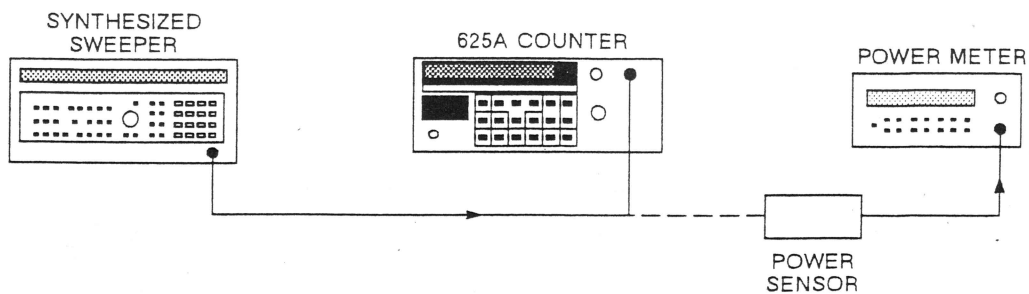

Figure 8-3. Band 2 Range and Sensitivity Test Setup.
1. Connect equipment as shown in Figure 8-3.